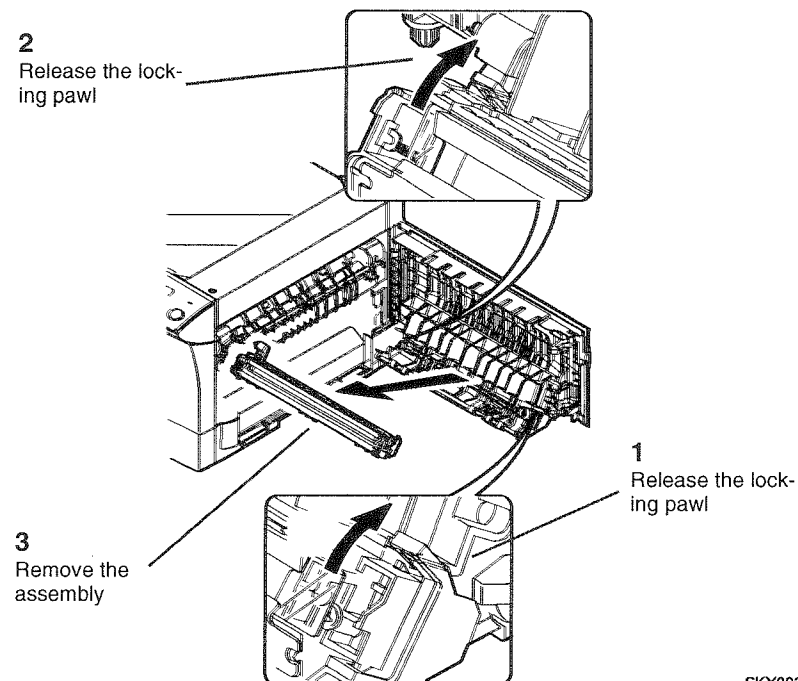

Figure 1 Removing the Transfer/Detack Corotron Assembly
2. ( Figure 1): Remove the Transfer/Detack Corotron Assembly.